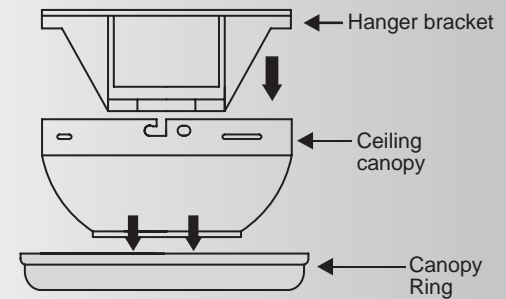

Fig. 5
1. Remove the canopy ring from the canopy. (Fig. 5)
2. Remove the hanger bracket from the canopy by loosening the four screws on the top of the canopy. Remove the two non-slotted screws and loosen the slotted screws. This will enable you to remove the hanger bracket. (Fig. 5)